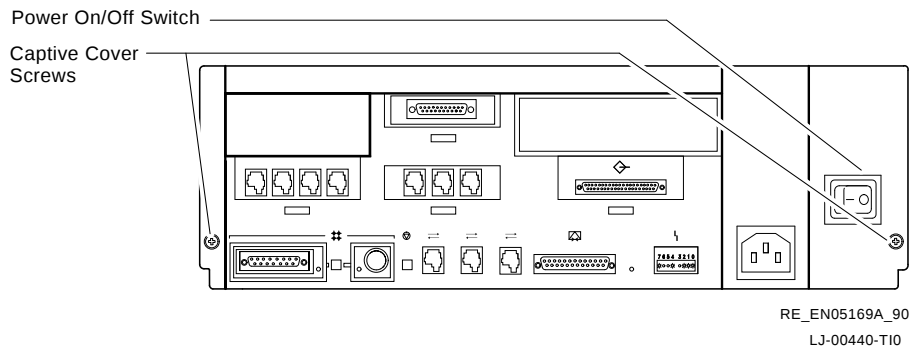

Figure 2-1 Location of On/Off Switch and Cover Screws
- a. Turn the system power off (O). See Figure 2-1.
- c. Loosen the two captive cover screws on the back panel of the system unit (Figure 2-1).